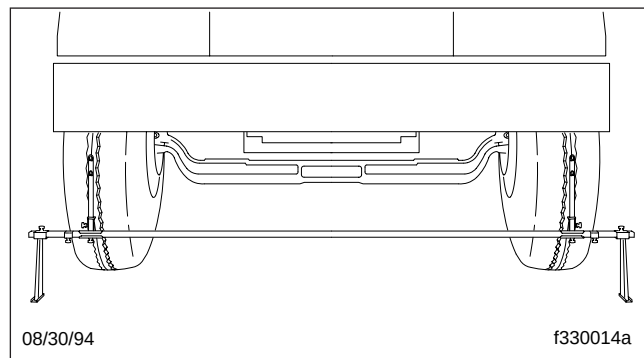
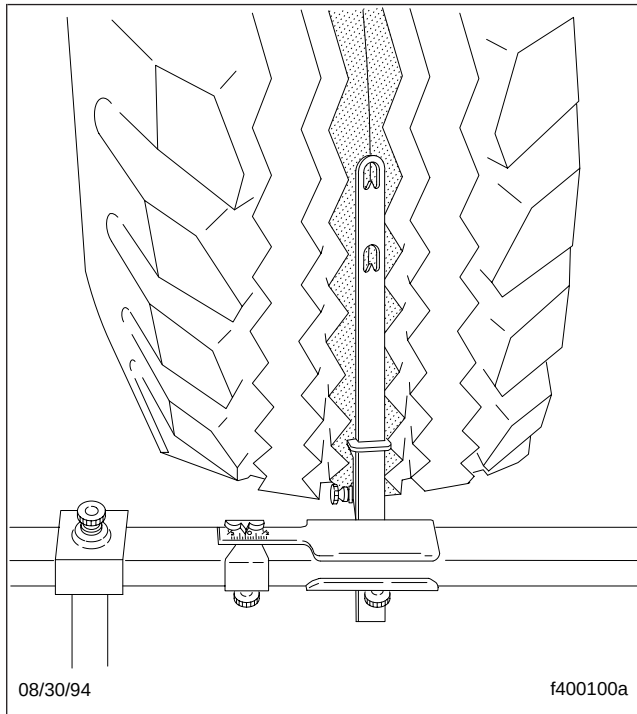

Fig. 4, Trammel Bar Positioning
Fig. 5, Setting Trammel Bar Pointers
7. Place the trammel bar at the front of the tires, see Fig. 4, and adjust the scale end so that the pointers line up with the scribe lines. See Fig. 5.